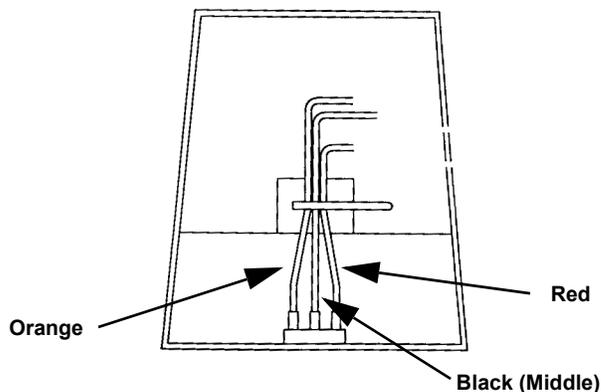

FIGURE 4
14. Connect the wires from the wiring harness to the front cover switch (see Figure 4).
15. Fasten wire tie around switch wires and mounting base (see (Figure 4)).